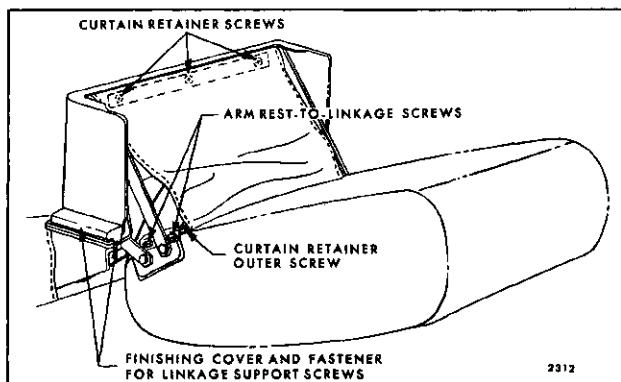

Fig. 15-26—Front Seat Center Arm Rest (Notch Down Seat Back)
- Carefully pull curtain back sufficiently to remove screws securing center arm rest to support linkage and loosen outer screws securing curtain retainer to arm rest (Fig. 15-26).
- Remove screw finishing covers (Fig. 15-26). Disengage arm rest from support linkage and turn arm rest upside down on trim panel finishing cover with curtain retainer to trim panel finishing cover (Fig. 15-26); then, remove arm rest and curtain from seat.
2. Working between arm rest and seat back, remove fastener at both sides of arm rest securing front end of screw finishing covers (Fig. 15-26).